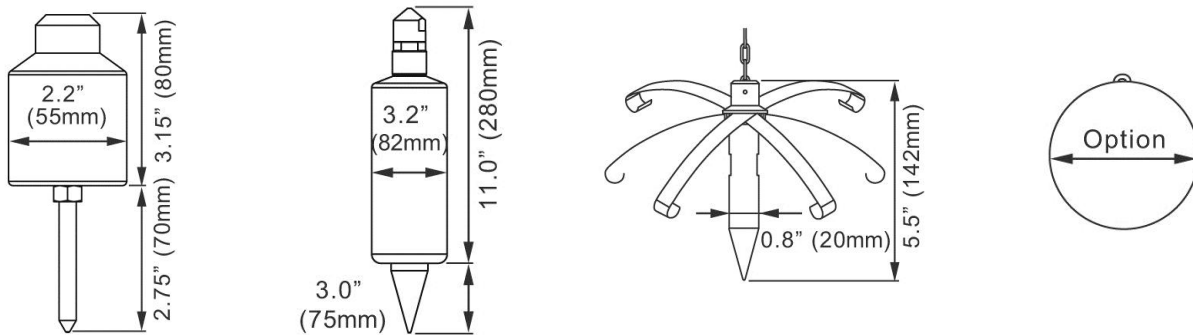

Figure 8: Sensing weights; standard, umbrella, plastic, ball
- 3. Installing sensor with optional sensing weights** - The aluminum alloy sensing weight is the standard sensing weight for all Model WC inventory monitoring sensors. Optional sensing weights are available, including the Umbrella, Plastic Auto Fall-Off and Ball Float sensing weights. Refer to Figure 8.